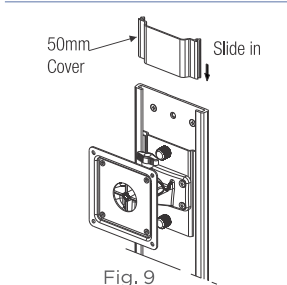

Fig. 9
10. Slide in one 50mm cover into the vertical track as shown in Fig. 9.